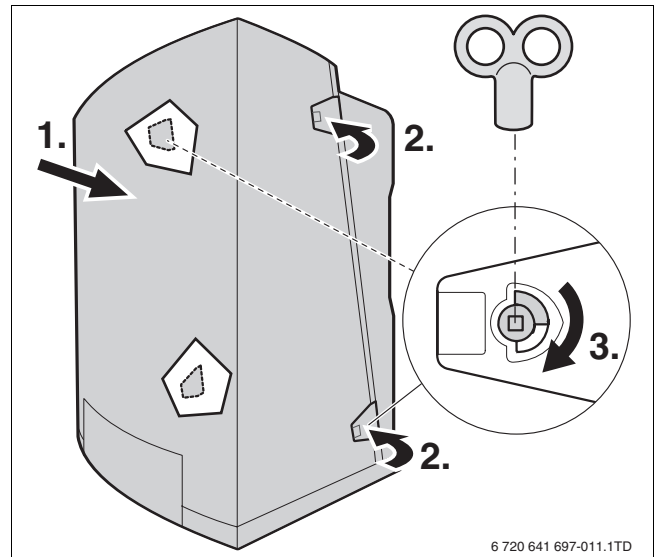

fig. 13 Installing the casing
- ▶ Install the gas supply pipe according to figures 13 to 23 of the gas supply pipe instructions (→ fig. 1, [11]).